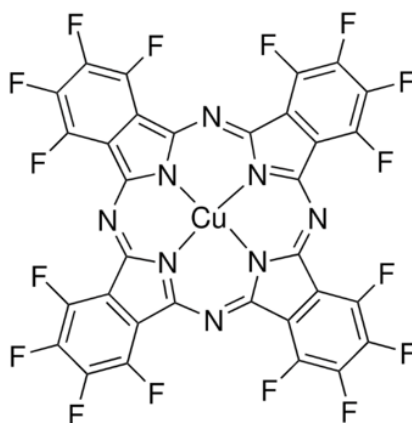

Figure 2: Structural formula of F₁₆CuPc
You will investigate three different samples. The first sample is a Si(100) wafer with a native surface oxide layer. The second sample consists of a thin film of copper-hexadecafluorophthalocyanine ($\text{=F}_{16}\text{CuPc}$, see Figure 2 for structural formula) deposited on natively oxidized Si(100). The third sample is a 7075 aluminium alloy.